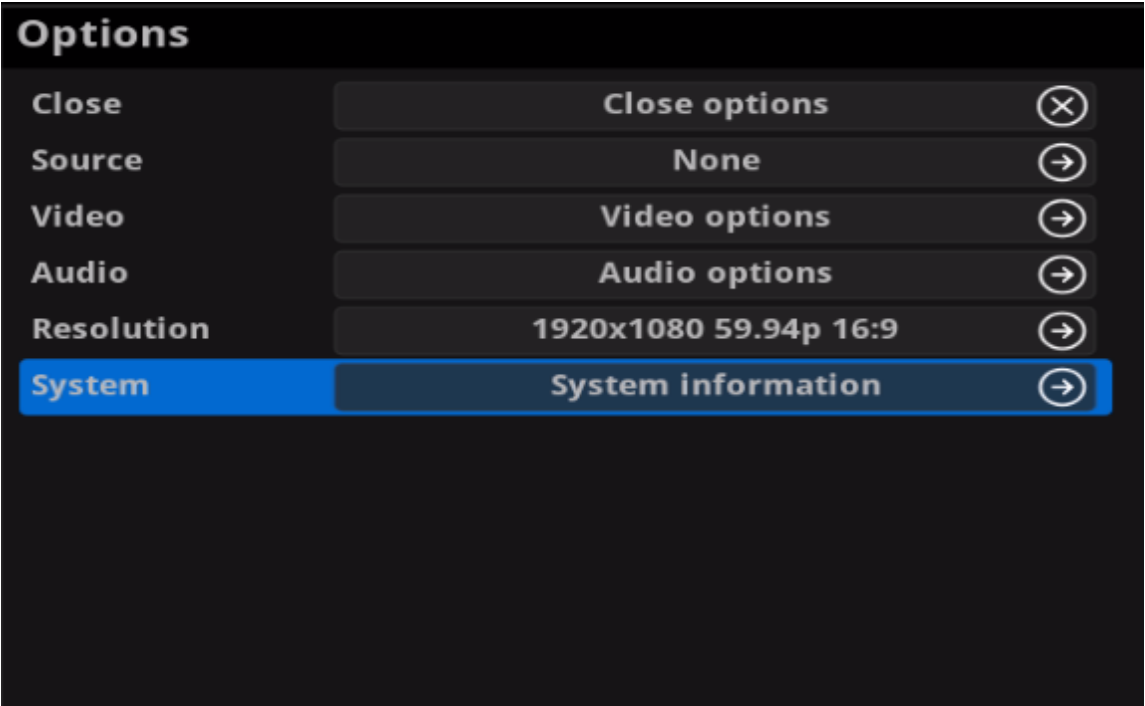

Figure1. Select System in Options menu
- Connect your decoder via Ethernet, power it up and connect a presentation device as shown in the Figure1. Connections.